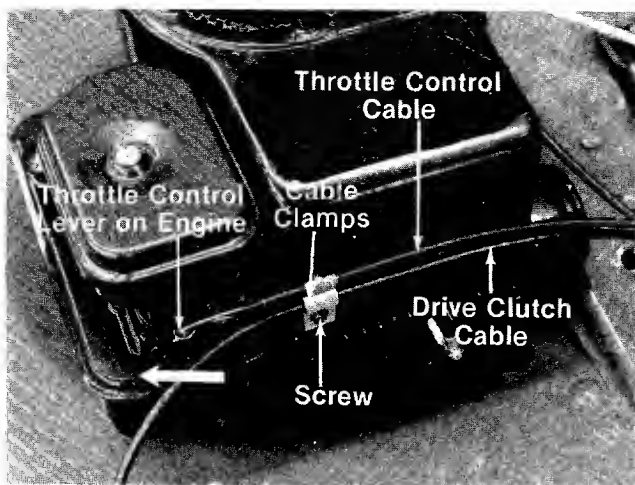

FIGURE 10.
13. Push the throttle control lever on the engine to the full open position (as far toward the outside of the unit as it will go) as shown in figure 10.
15. Remove the screw on the cable clamps shown in figure 10. Slip the throttle control casing under the clamp which is against the engine. Place the drive clutch control cable under the outside clamp. With the throttle lever on the engine still in the full open position, replace and tighten the screw to secure the throttle control cable and drive clutch cable.
1. Loosen, but do not remove, the screw securing throttle control wire assembly at engine. See figure 10.